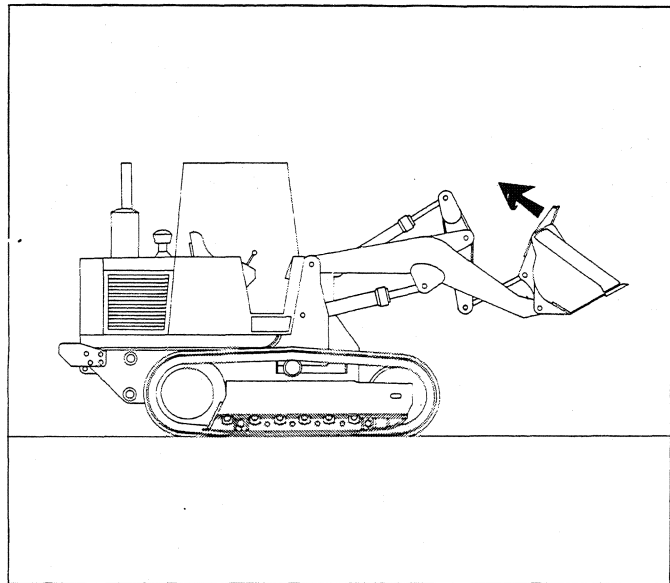

Fig. 7D
Shifting the lever into position (D) will cause the bucket to close (fig. 7D).